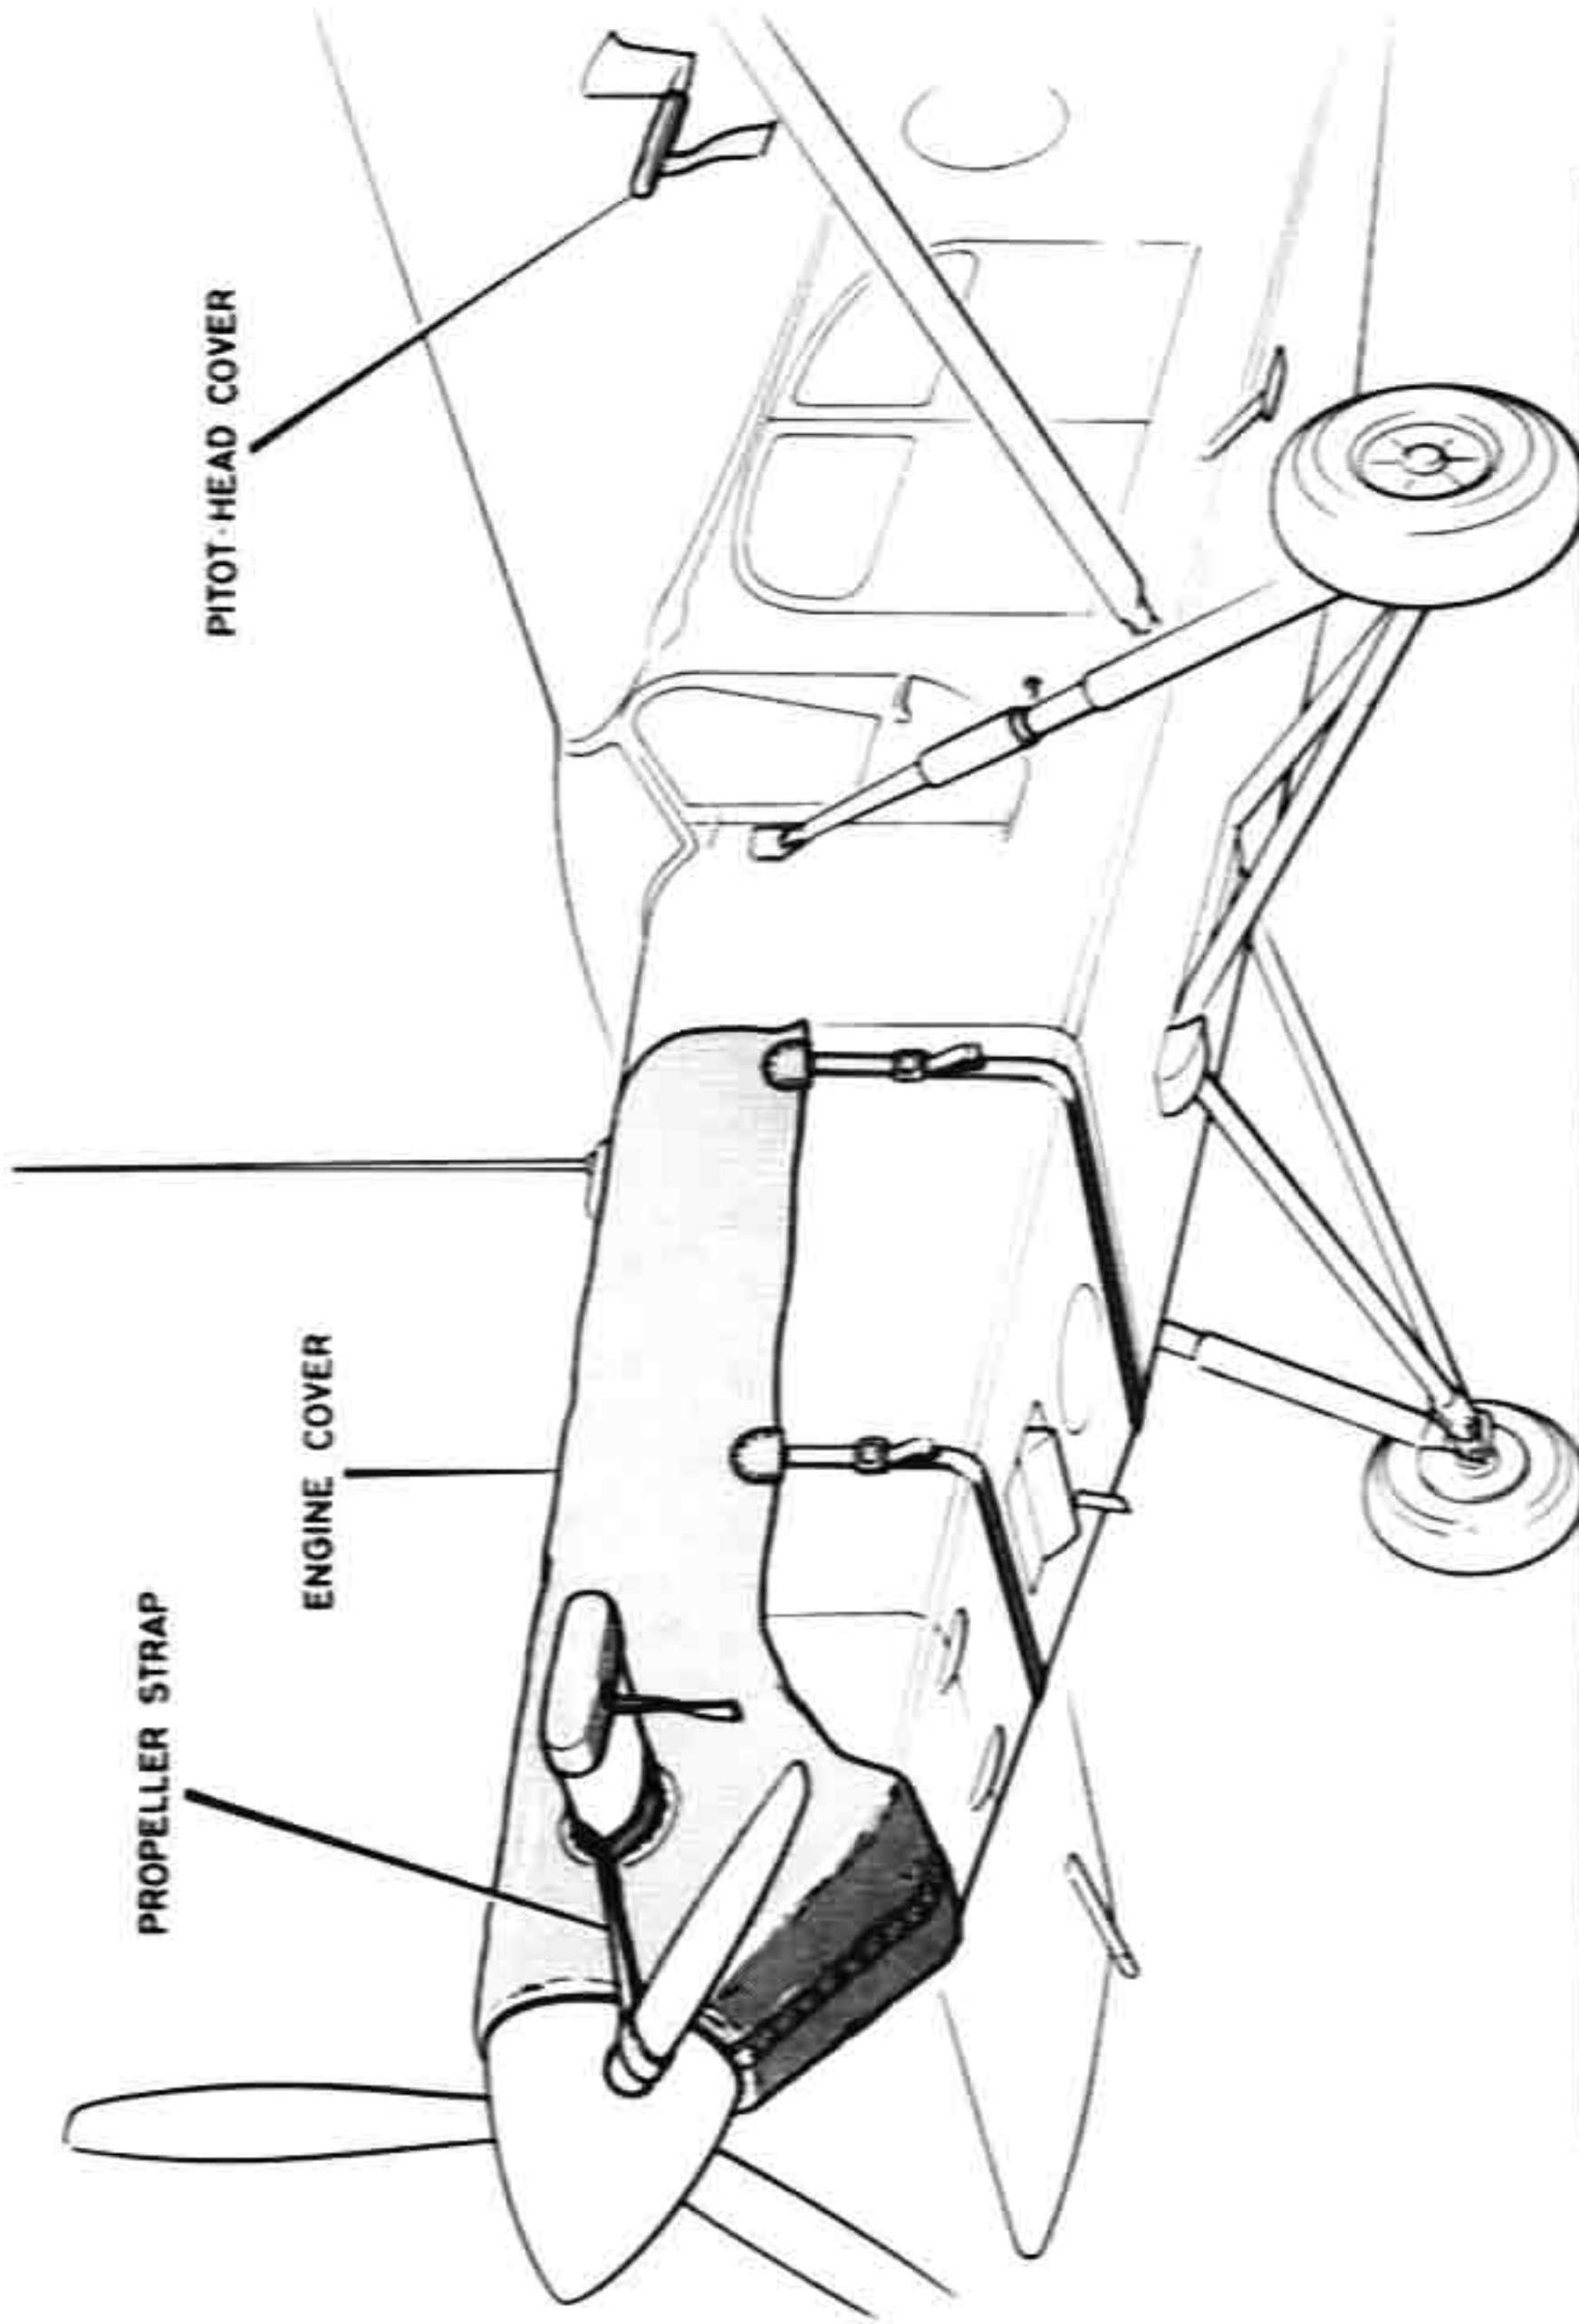

FIG.1-57 EXTERNAL COVERS
5. Fit the engine cover and pitot-head cover to the aircraft and secure with the attached straps and buckles. A cut-out is provided to fit around the ARC-54 front antenna coupler so that the antenna rod need not be removed. (Ref. Fig. 1-57).